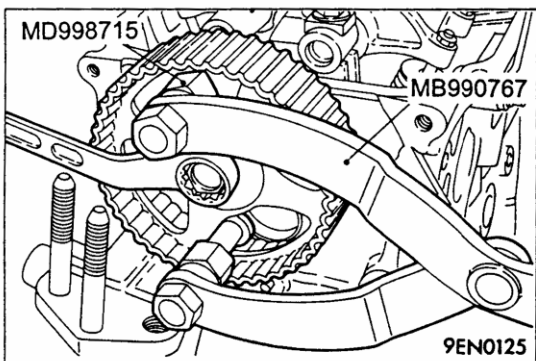

Fig.4-9
(2) REMOVAL OF CAMSHAFT SPOCKET BOLT
- a Using the special tools shown in the illustration, lock the camshaft sprocket in position, see Fig.4-9.